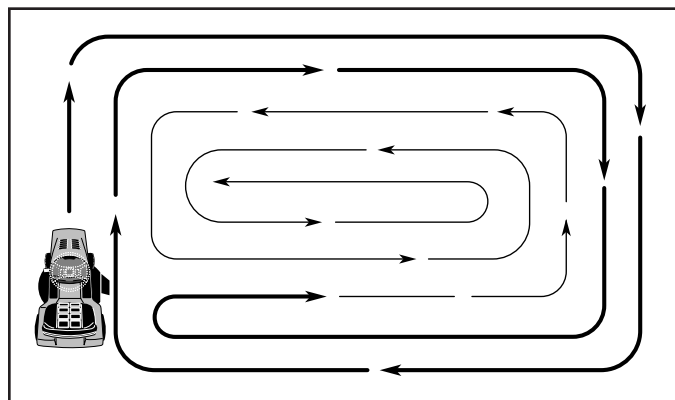

Fig. 14
- When mowing large areas, start by turning to the right so that clippings will discharge away from shrubs, fences, driveways, etc. After one or two rounds, mow in the opposite direction making left hand turns until finished (See Fig. 14).